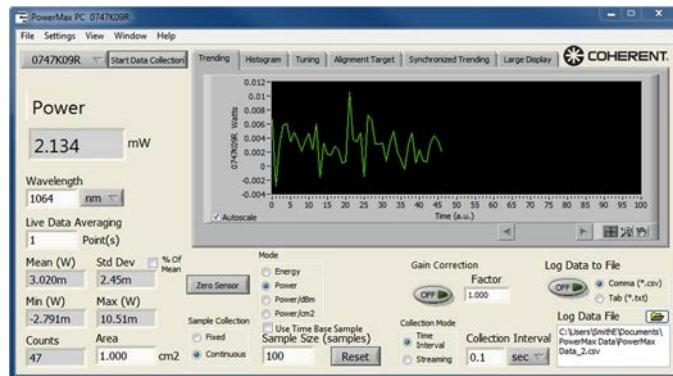

Figure 13-12. Monitor Power of the Output Fiber
1. First, connect a power meter and sensor to monitor power of the output fiber, as shown in Figure 13-12. See “Appendix J: Power Measurement Instrumentation” (p. J-1) for recommended Coherent equipment.